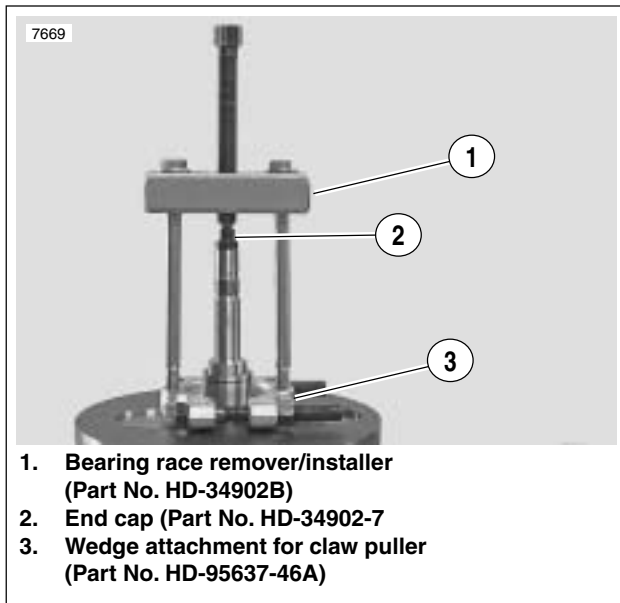

Figure 3-144. Removing Pinion Bearing Inner Race
8. See Figure 3-144. Pull inner race from pinion shaft using WEDGE ATTACHMENT for CLAW PULLER (Part No. HD-95637-46A) with BEARING RACE REMOVER/INSTALLER (Part No. HD-34902B) and END CAP (Part No. HD-34902-7). Apply heat to race to aid removal.